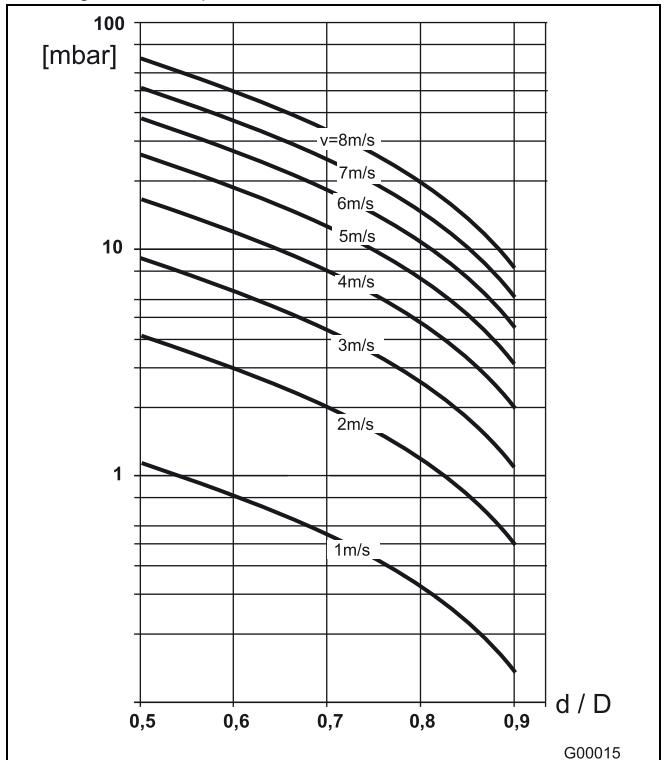

Fig. 37
- Determine the flow velocity based on the flow range nomograph (Fig. 37).
- Read the pressure drop on the Y-axis in Fig. 37.